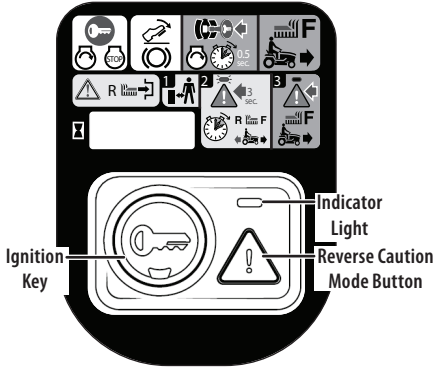

Figure 27
2. Press the REVERSE CAUTION MODE button and hold for 3 seconds. The indicator light will flash for 3 seconds and will stay on when the REVERSE CAUTION MODE is activated (Figure 27).
3. The indicator light above the REVERSE CAUTION MODE button will be ON while activated (Figure 27).